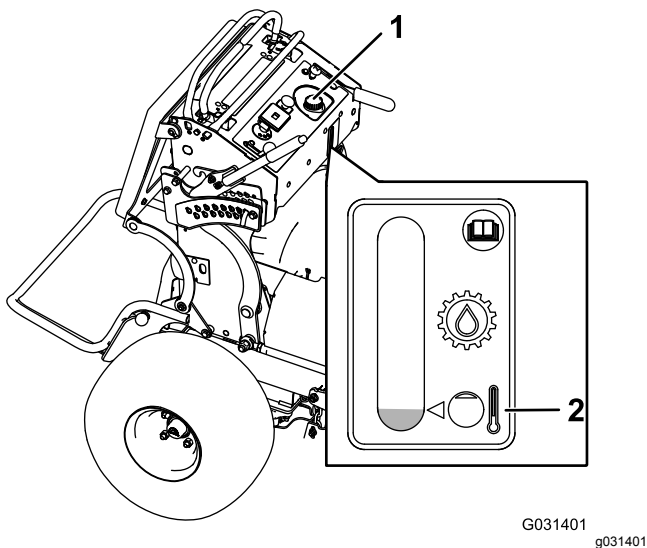

Figure 69
3. Clean the area around the cap and the filler neck of the hydraulic tank (Figure 69).
4. Remove the cap from the filler neck (Figure 69).